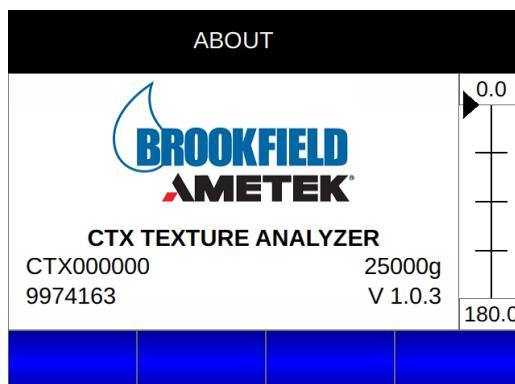

Figure I.1
- 8) Turn the power switch to the ON position. The About screen will indicate the part number, serial number, firmware version and load cell installed in the CTX (Figure I.1).